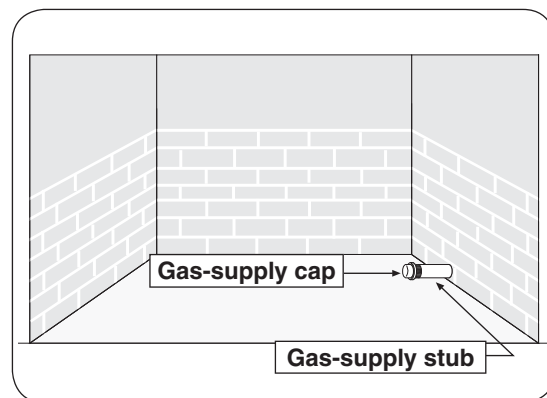

Fig. 3-2 Remove gas-supply cap
4. Make sure the fireplace gas supply is turned off. Locate the gas-supply stub inside the fireplace and remove the cap, if attached (reference Fig. 3-2).